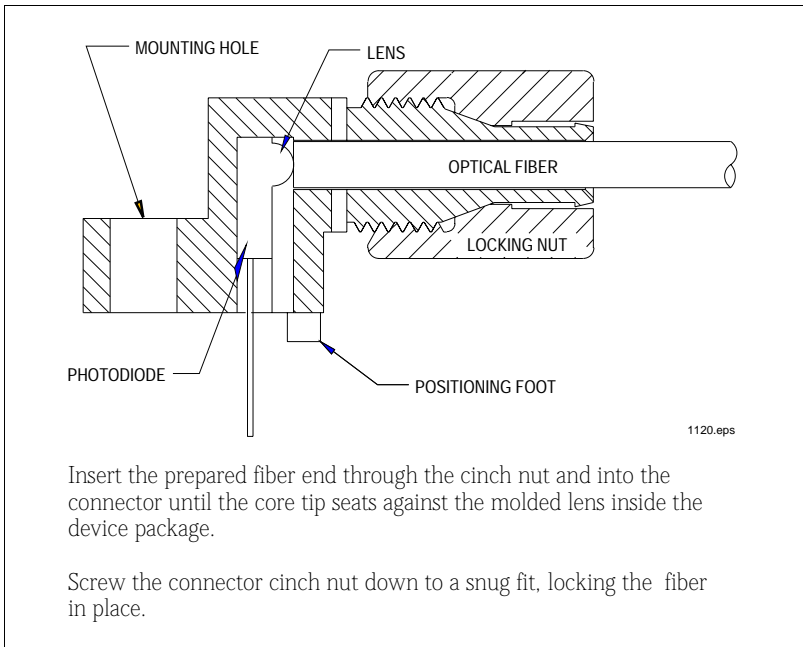

Figure 4. Cross-section of fiber optic LED and cable.
- A10.** *Connect the transmitter and receiver assemblies with the optical fiber, following the steps in **Figure 4**. Move the transmitter and receiver printed wiring boards as far apart as the fiber length will allow.*